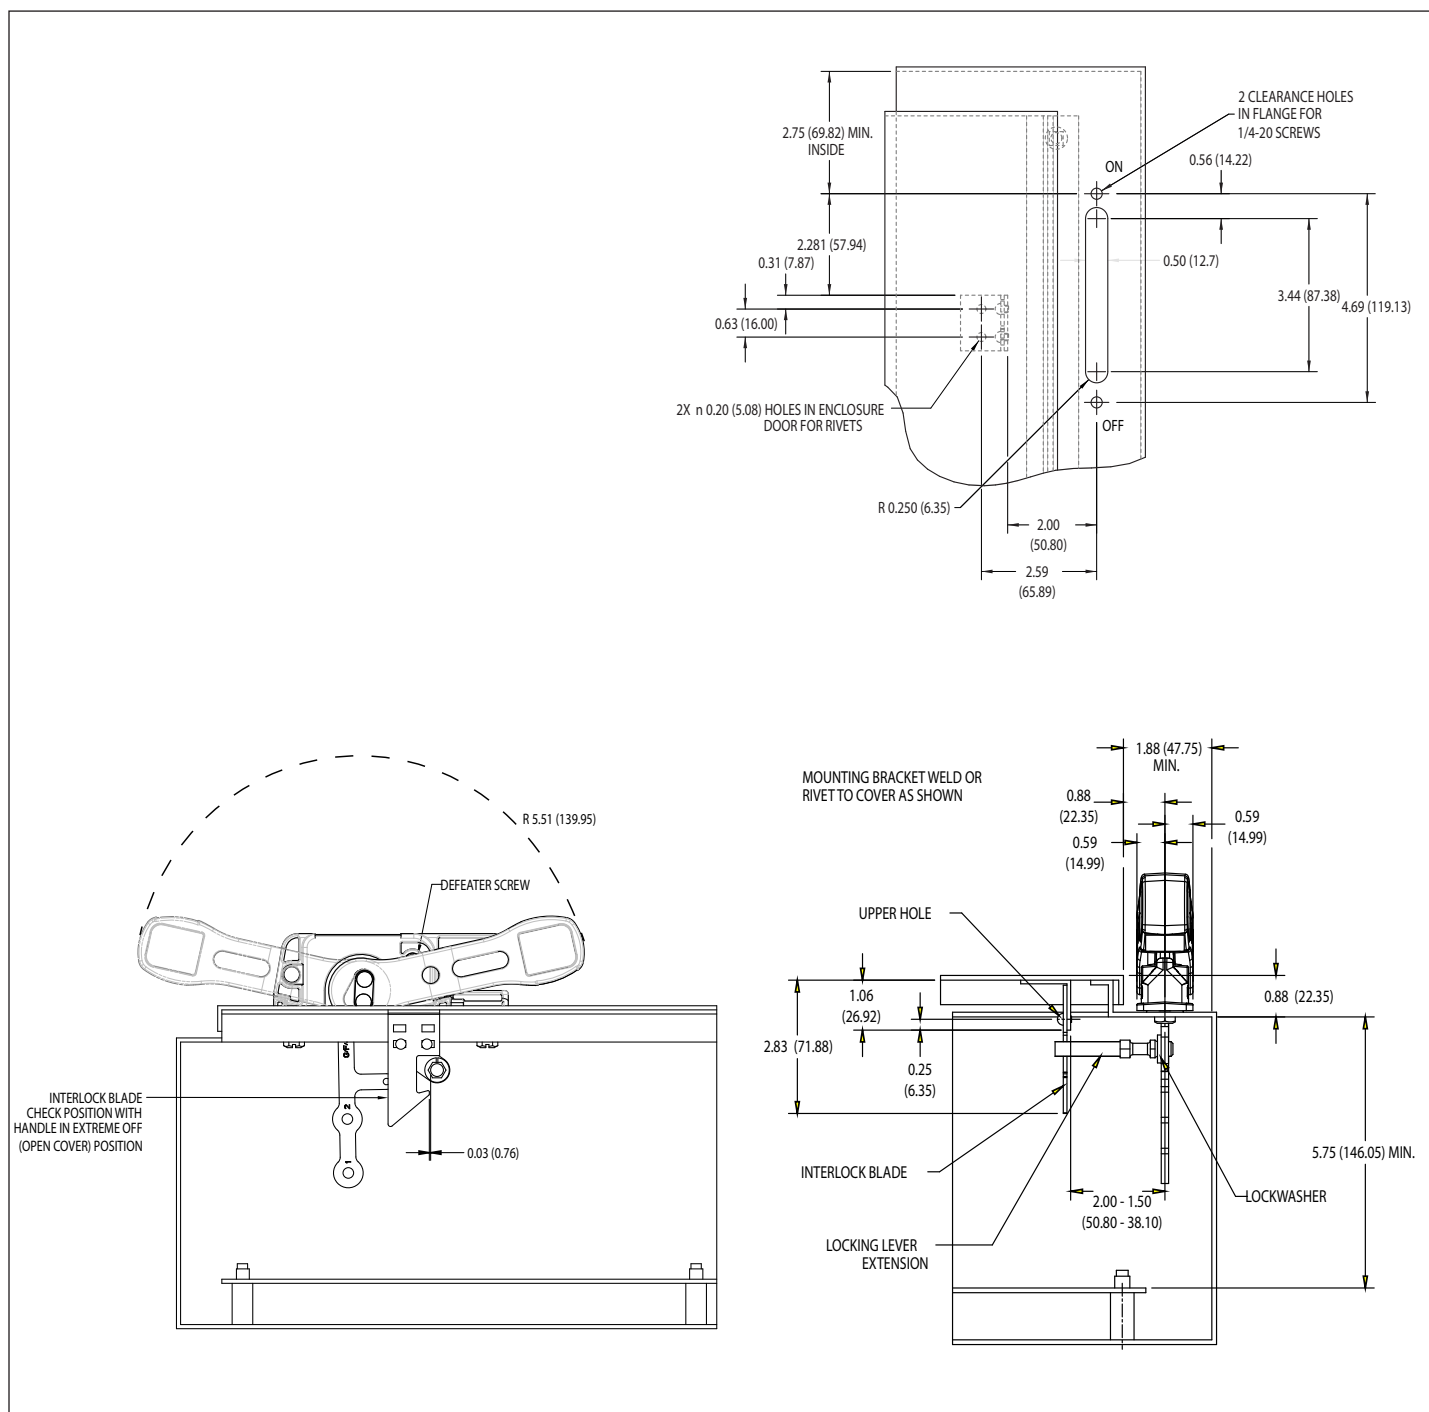

Figure 8. Flange Drilling Plans for Handle and Interlock Blade Mounting Dimensions.
2. Install the handle to enclosure by removing the two screws and lock washers from the outer handle mechanism. Place the outer handle mechanism, with attached gasket, over the enclosure cut-out (for cut-out dimensions, refer to Figure 8). Insert the top 0.25-20 outer handle mechanism mounting screw and lock washer through the enclosure and thread into the outer handle mechanism for a few turns, but not all the way.
11. Install the appropriate door hardware supplied (see Figure 8).